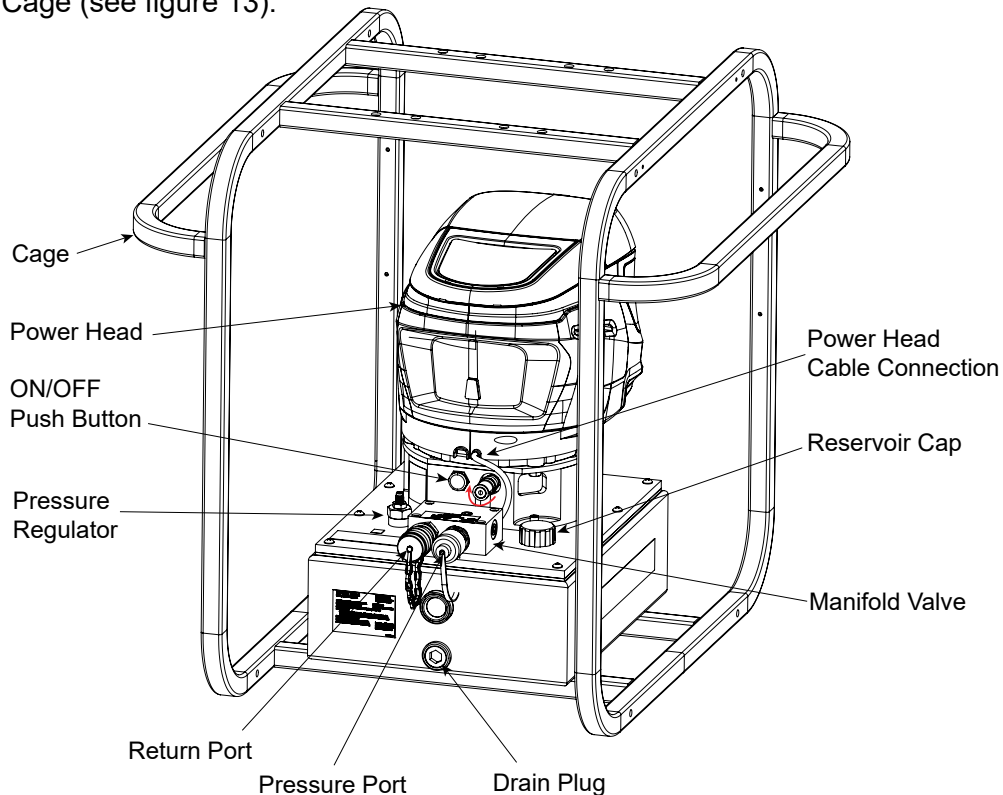

Fig. 13: PB43 Pump Unit
- A. The PB43 pump features a standard protective and stackable uCage designed for attachment to the eSync uCage (see figure 13).
- G. Connect the power head female cable connector with male connector located on the pump unit. Secure the connection by threading (rotating clockwise) the cable fitting into the pump unit fitting, as shown in figure 13.